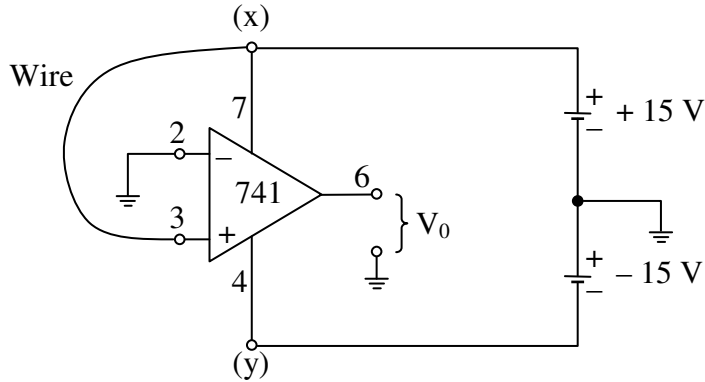

Fig. 8.6 Measuring $\pm V_{\text{sat}}$
1. Wire the circuit shown in Fig. 8.6. Measure power supply voltages. $+V_{\text{CC}} = \underline{\hspace{2cm}}$, $-V_{\text{CC}} = \underline{\hspace{2cm}}$. (Note: Since these voltages are measured with respect to ground, be sure to include the correct polarity.) Also measure the total voltage between points x and y.
3. Measure $V_0 = +V_{\text{sat}}$ in Fig. 8.6. $+V_{\text{sat}} = \underline{\hspace{2cm}}$. To measure $-V_{\text{sat}}$, first remove the wire connecting pin 3 to point x in Fig. 8.6 and wire pin 3 to point y. Measure $V_0 = -V_{\text{sat}} = \underline{\hspace{2cm}}$.